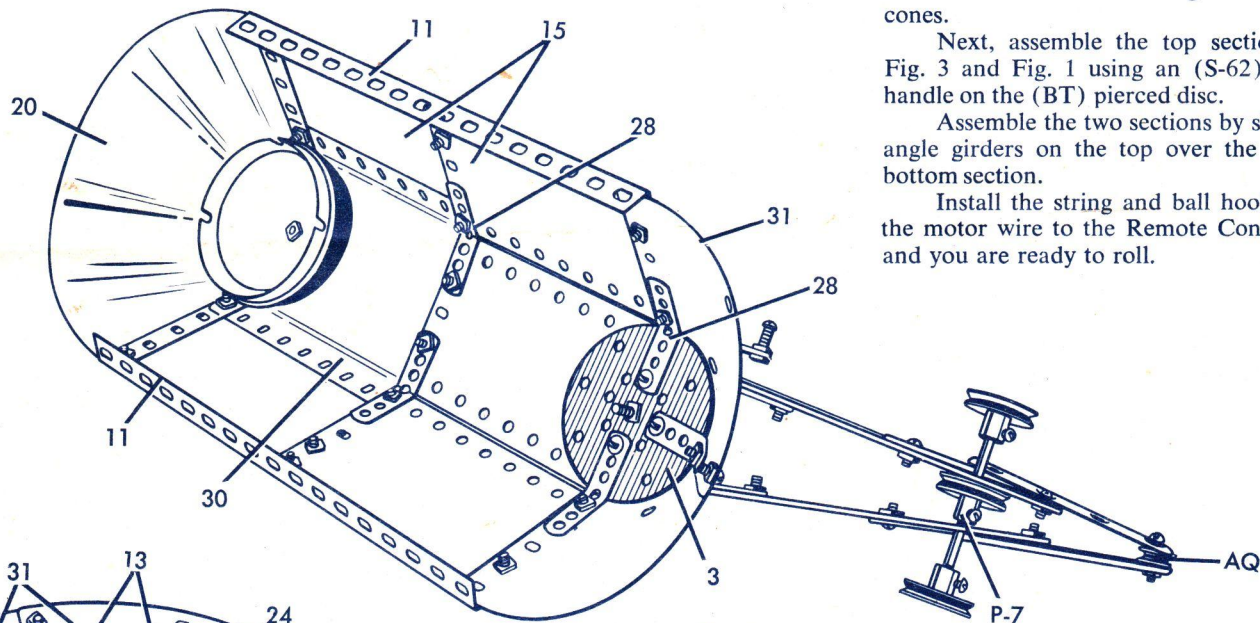

Fig. 3
Next, assemble the top section as pictured in Fig. 3 and Fig. 1 using an (S-62) 7/8" screw for a handle on the (BT) pierced disc.